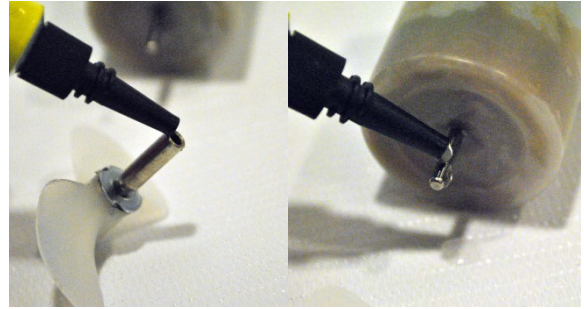
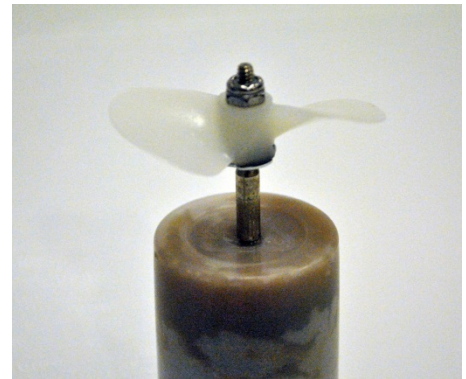

Figure 2.6-1: Adhesive on Tip of Roughened Motor Shaft and In Hollow End of Shaft Coupler
Figure 2.6-2: Propeller and Shaft Coupler Mounted on a Thruster Motor's Shaft
10. Place a drop of Super glue in the hollow end of the shaft coupler and on the tip of the motor shaft, as in Figure 2.6-1. Push the hollow end of the shaft coupler onto the motor shaft. A completed thruster is shown in Figure 2.6-2.